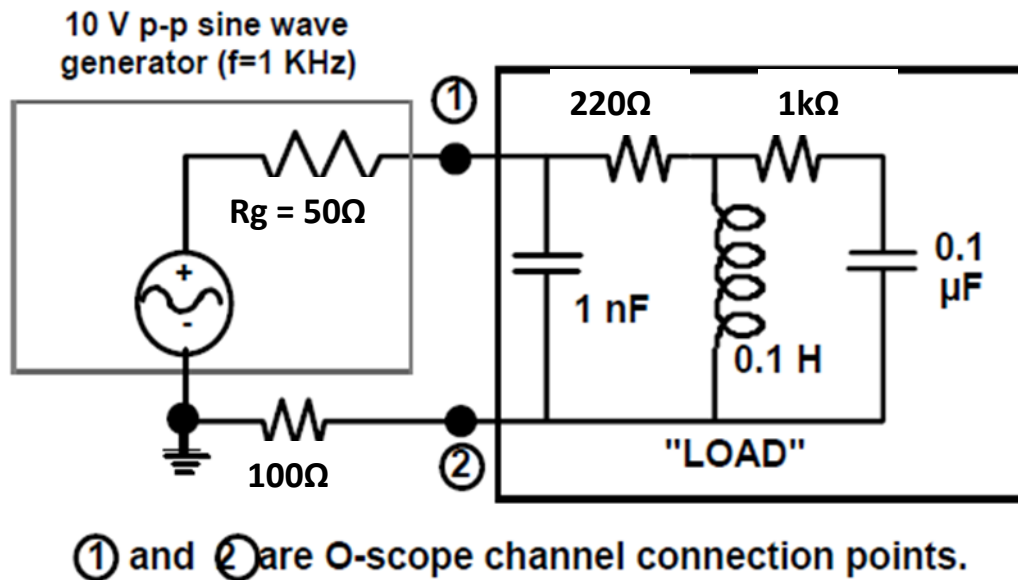

Figure 1: Power factor test circuit
- (1) Consider the circuit of Figure 1.
- (2) Assume you used a multimeter (which reads rms voltage) to obtain the rms voltages for  $V_G$ ,  $V_R$ , and  $V_L$ . Convert the calculated (maximum) values from part 1 to rms values and use a phasor diagram to *graphically* determine the pf.
- (3) Calculate the capacitance which, when placed in parallel with the load, will raise the pf to 1.
- (4) Use LTSpice to determine the pf of the (original) load. Determine the phase difference between the load voltage and current. Then, include the capacitor (part 3) and determine the new pf.
- (1) Use the inductance/capacitance meter to measure the exact component values for the inductor and capacitors used in this experiment. Use a multimeter to measure the exact values for the resistors used.
- (2) Use the oscilloscope to measure the phase angle between the load voltage and load current (measured through the 100Ω resistor). Connect the O-scope and circuit as in Figure 1.